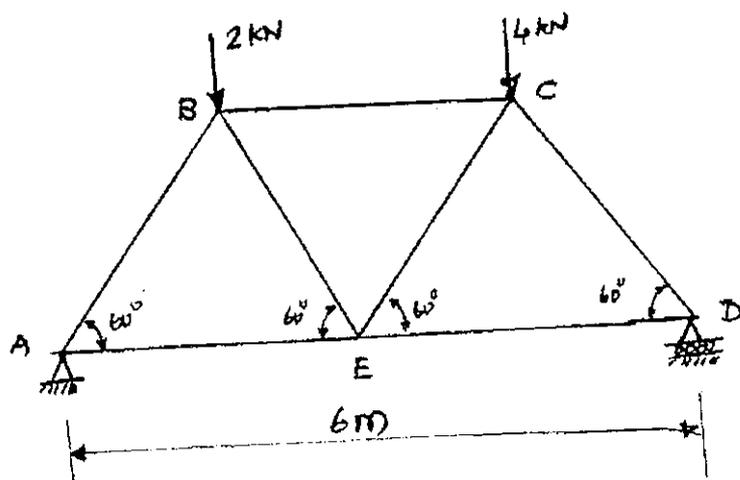

Fig. 4.
12. (a) Determine the forces in the members of the pin jointed truss shown in Fig.4.